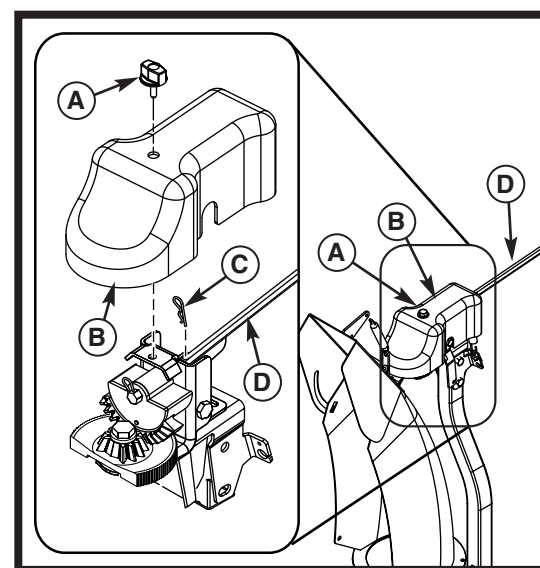
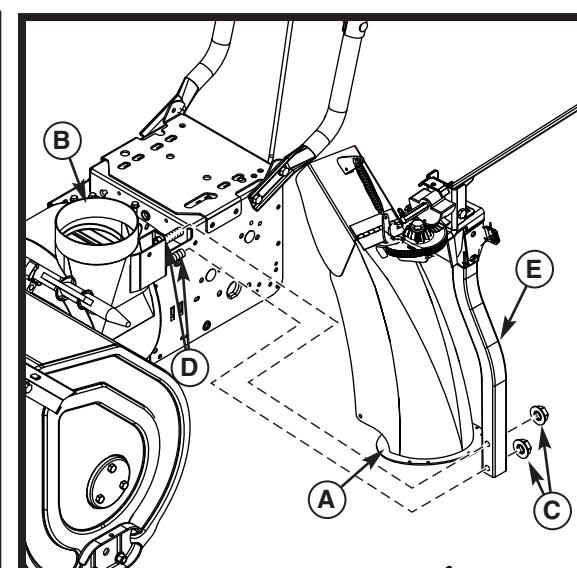

Figure 7
Figure 8
- Remove special nut (A, Figure 7) and cover (B).
- Remove hair pin (C) with a pliers and slide rod (D) forward about 8 inches.
- Slide the chute base (A, Figure 8) onto the auger housing (B).
- Slide chute support tube (E, Figure 8) on to the carriage bolts (D). Do Not tighten at this time.
- Install cover (B, Figure 7) and secure with special nut (A).
- Secure chute support tube (E, Figure 8) to chute base securing with lock nuts (C) using a 9/16 wrench.